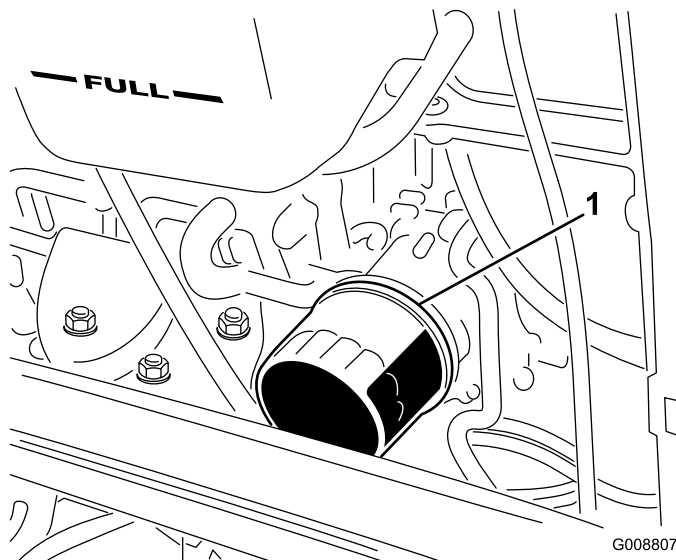

Figure 57
2. Remove the oil filter (Figure 57). Apply a light coat of clean oil to the new filter seal before screwing it on. Do not overtighten.